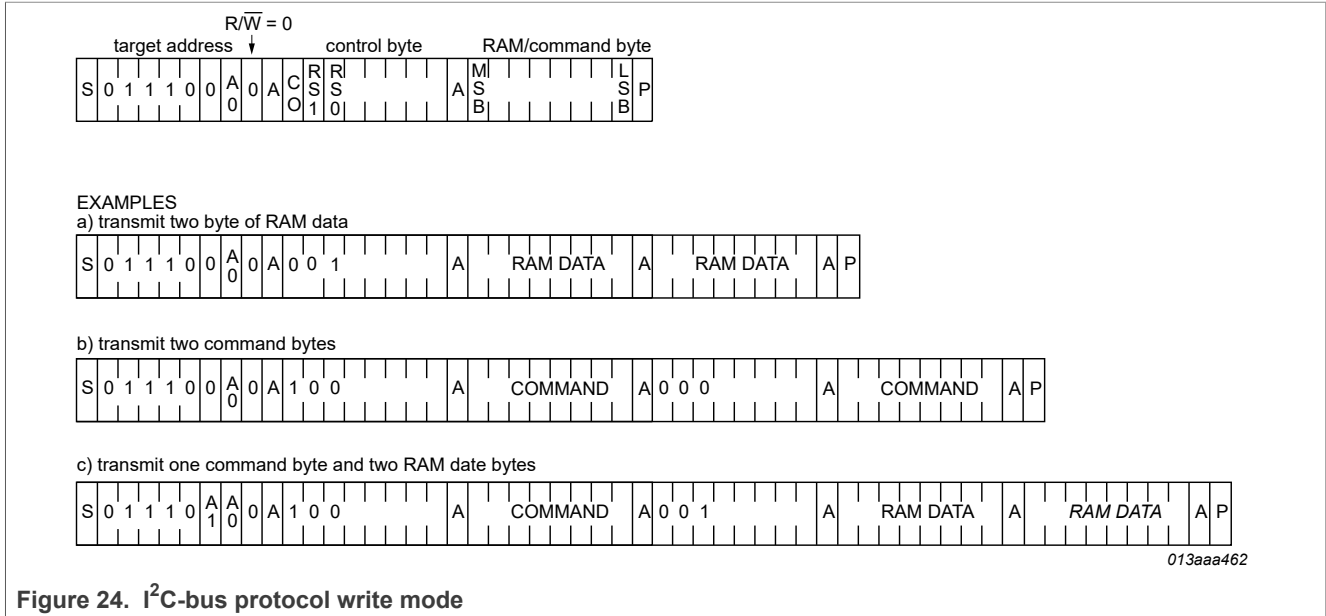

Figure 24. I²C-bus protocol write mode
The I²C-bus protocol is shown in Figure 24. The sequence is initiated with a START condition (S) from the I²C-bus controller which is followed by one of the two PCA8546 target addresses available. All PCA8546 with the corresponding A0 level acknowledge in parallel to the target address. But any PCA8546 with the alternative A0 level ignore the whole I²C-bus transfer.